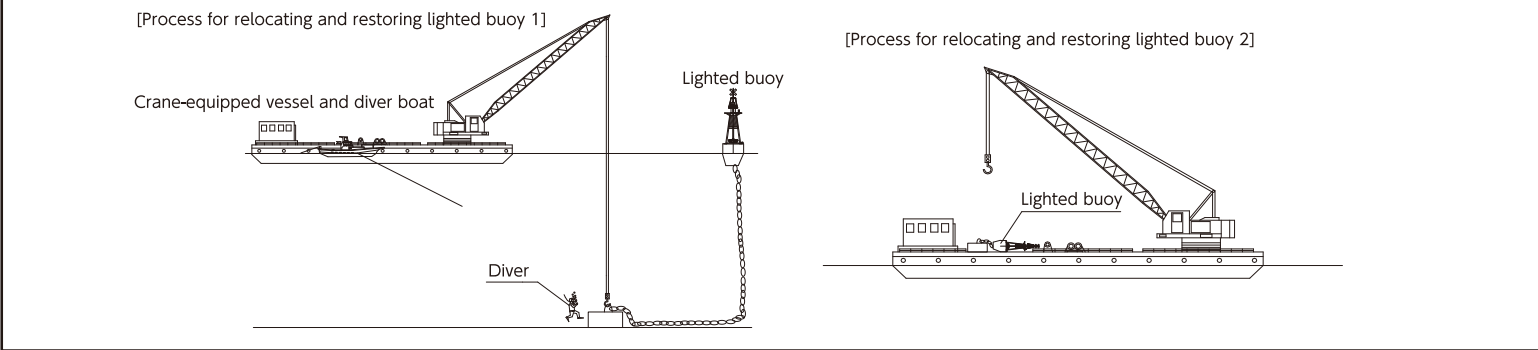

Figure 3: Lighted buoy relocation and restoration plan
- 1) Crane-equipped vessels will display the day shapes required for the prevention of collision at sea (black: ball, diamond, ball) and round buoys will be placed at the four corners of the work area. (Refer to Fig. 3, 4)